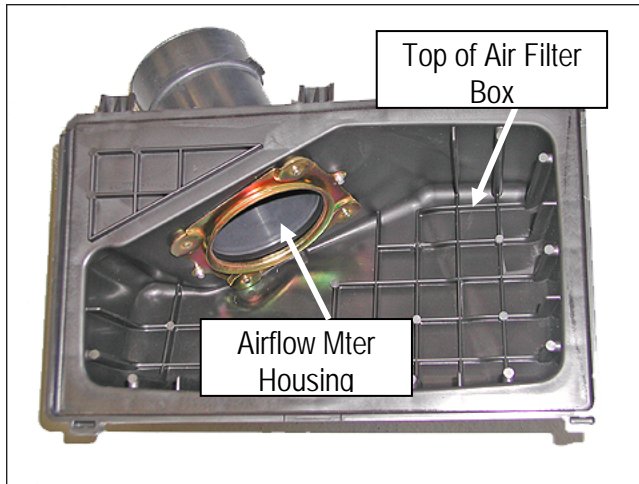

Figure 2
- Wipe out the entire inside area of the airflow meter housing with a clean rag (see Figure 2).
- Use low-pressure compressed air or a shop vacuum to clean out all dust, dirt, and debris from inside both halves of the air filter box and inside of the airflow meter housing (see Figures 2 and 3).